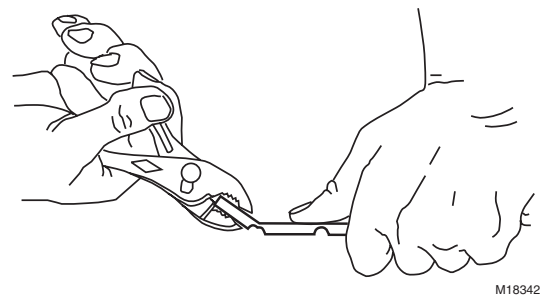

Fig. 8. Shortening the bulb holder.
4. Shorten the bulb holder to the desired length. See Fig. 8.